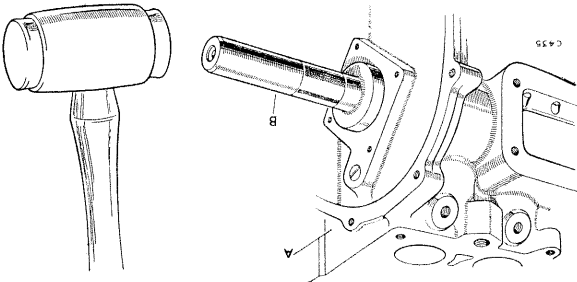

Fig. A-37—Outer camshaft bearing removal
6. When the fitting bar has been pressed in as far as possible by hand, ensure that all locating points are properly engaged, then drive the bearings into position with a hide-faced hammer. Remove the bearing fitting tools and check the oil holes for alignment. Remove the two rear-most bearings as illustrated in Figs. A-37 and A-38.